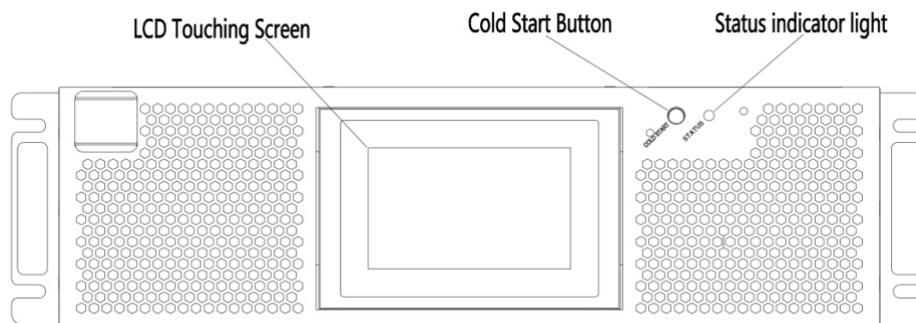
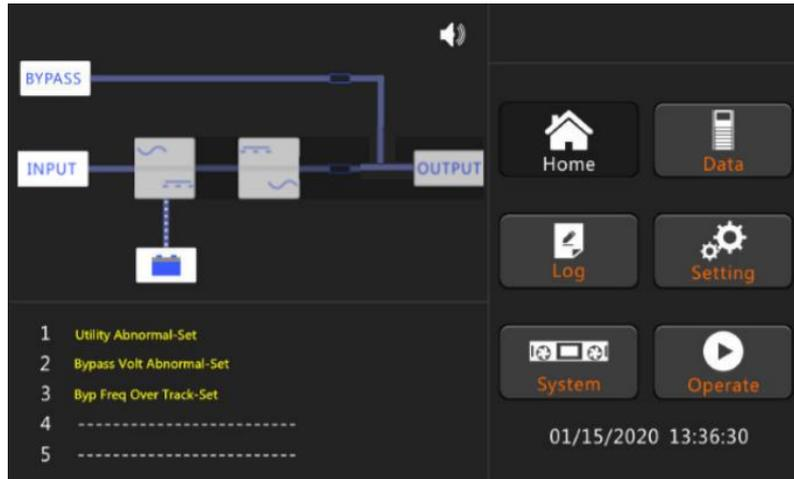

Figure 4-6 Position of the battery cold start button
Figure 4-7 Energy flowing diagram of discharge
- 2) Press and hold the red button of battery cold start until the energy flowing is lighted and flashing, it indicates the system is been powering by the batteries. The position of the battery cold start button is shown in Figure 4-6, the energy flowing diagram is shown in Figure 4-7.